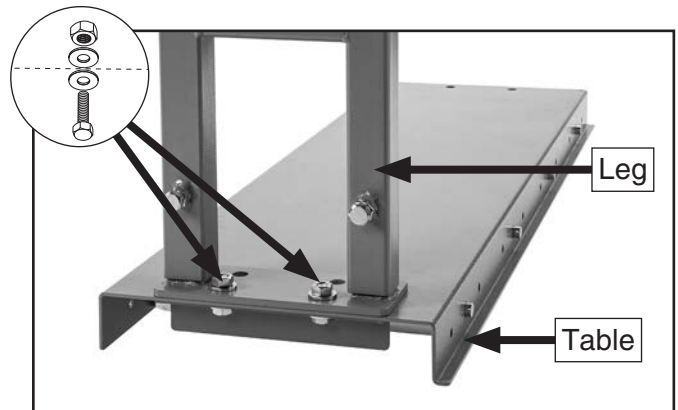

Figure 2. Roller table attached to leg.
1. Attach (2) legs to roller tables (see Figure 2) using (4) hex bolts, (8) flat washers, and (4) hex nuts.